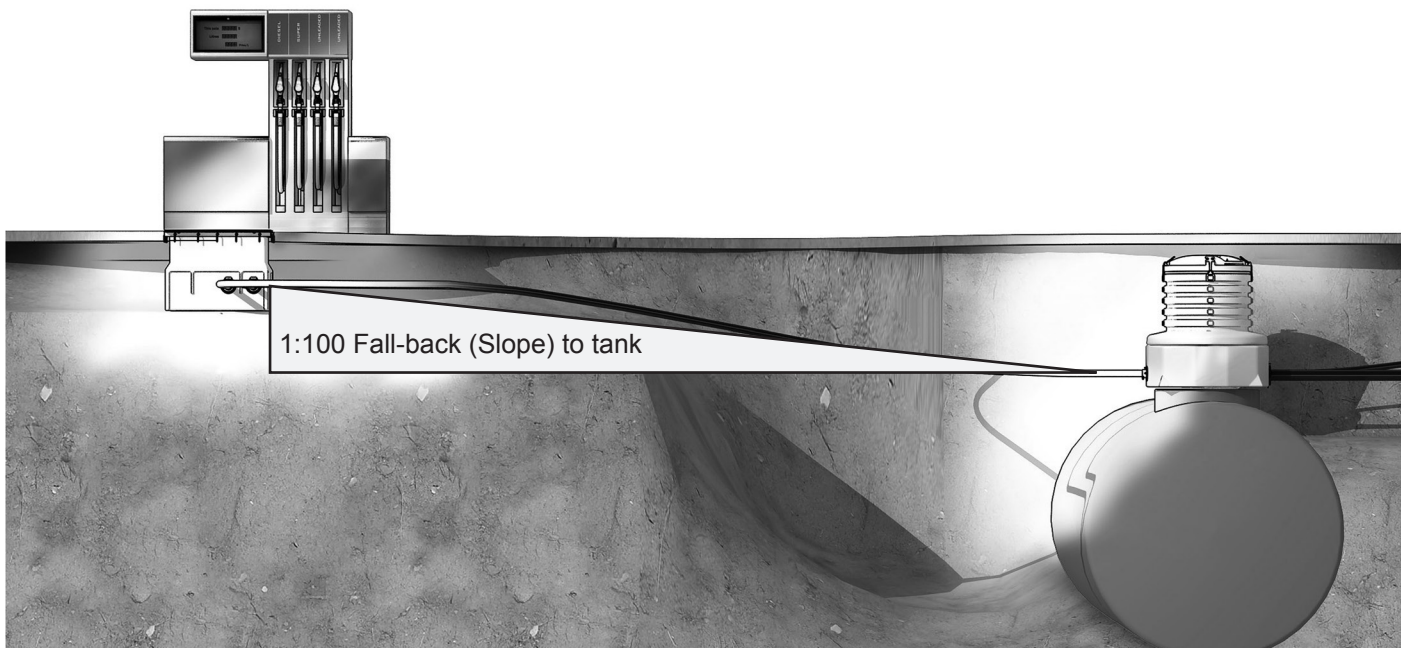

Figure 7: Fall-back (Slope) to Tank
- All trenches should be sloped back towards the storage tanks. The fall back (slope) for all pipework to the tank chambers should be a minimum of 1 m every 100 m or 1/8" per foot (Figure 7). This may vary to meet local requirements. The position of the entry fittings at the furthest dispenser sump away from the tank chambers may be considerably higher than that of the entry fittings on the closest dispenser sump.